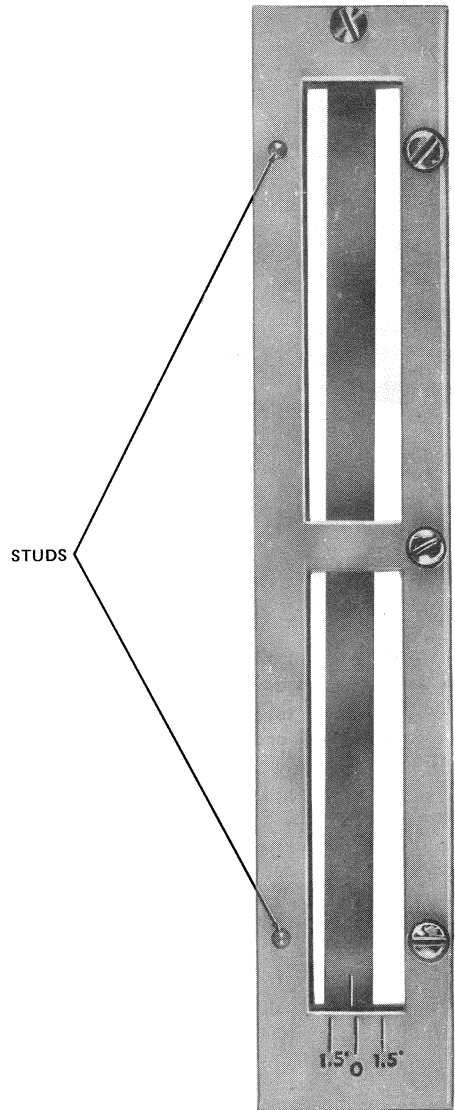

Fig. 7—KS-22473 Leveling Device
- Ensure that security studs and thru-wall fasteners are used where possible. Always install all (7) 1/4-20 hardened screws when mounting a 1-type set. A single 1/4 I.D. flat washer may be used under each screw head for added security.
**A. KS-22473 Leveling Device (Fig. 7)**
- (1) If a 178A backboard is used, position the leveling device so that the (2) studs insert into (2) of the center holes on the backboard and check that the black centerline on the pendulum is within the two 1.5 degree marks on the frame of the leveling device.